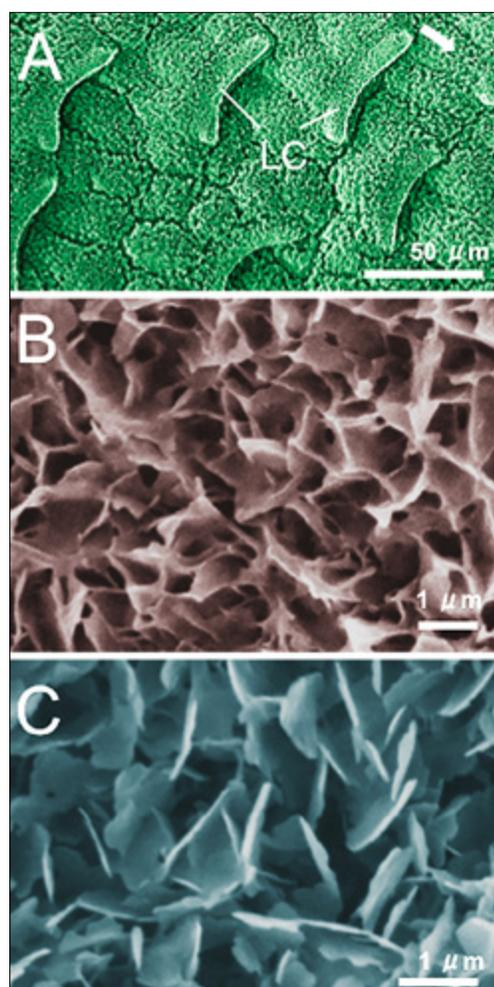

Fig. 3 Hierarchically aligned surface structures in the slippery zone of *Nepenthes alata* pitchers (scanning electron microscopy).
ters); (2) the lower wax layer composed of interconnected microscopic wax crystals and (3) the upper wax layer consisting of separate microscopic plate-like wax crystals (Fig. 3). These structural hierarchical levels play different roles in the reduction of insect attachment to the slippery zone due to different physical mechanisms.